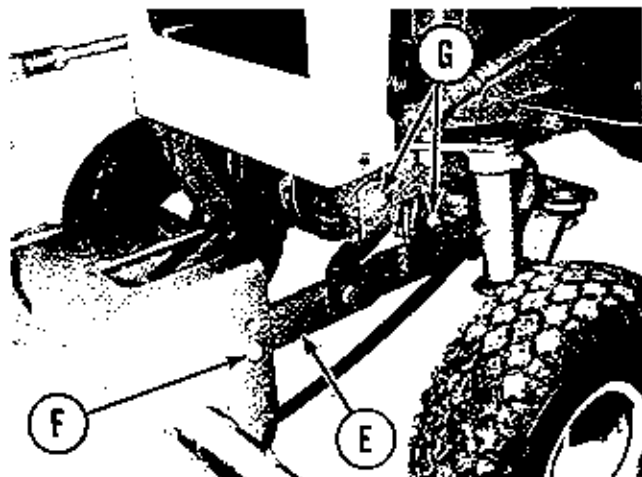

FIGURE 2
2. Attach the hitch (E) to the snow thrower housing with two pins and spring clips (F). Move the housing and hitch into position at the front of the tractor and attach the hitch
to the tractor axle and frame at points (G) with pins and spring clips. (See Figure 2)